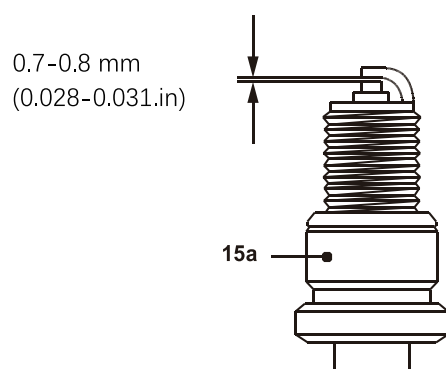

Fig. 28
6. Check the spark plug gap. It should be 0.7-0.8 mm(0.028-0.031.in) (Fig. 28).
8. When replacing the spark plug (15a), first screw it in hand tight and then lightly tighten it with the spark plug wrench (30).